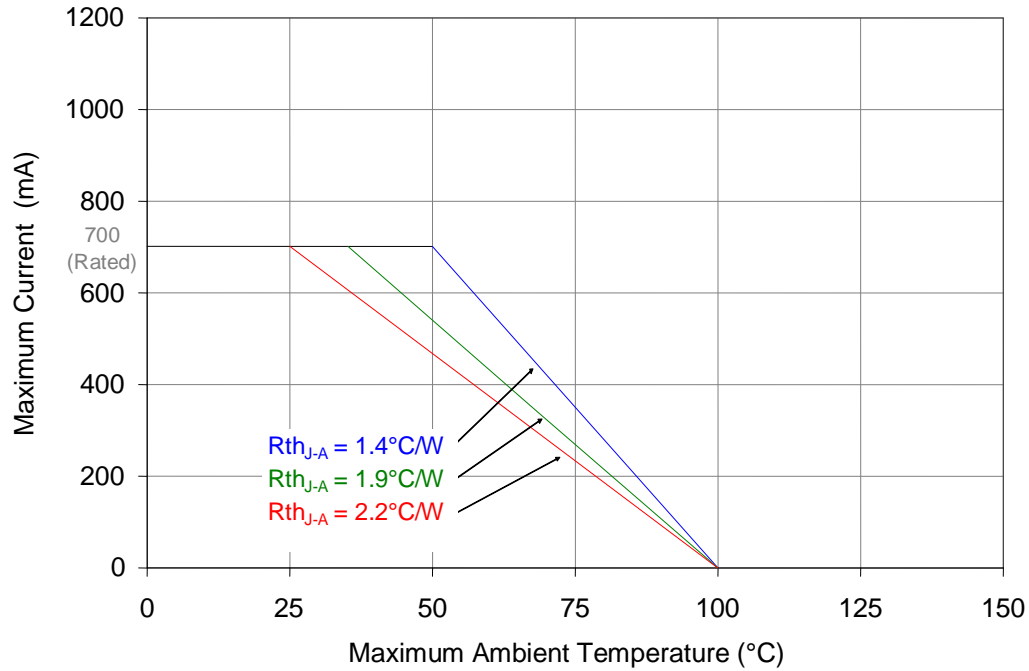

Figure 10: Maximum forward current vs. ambient temperature based on $T_{J(\text{MAX})} = 100^{\circ}\text{C}$.
- Maximum DC forward current (per die) is determined by the overall thermal resistance and ambient temperature. Follow the curves in Figure 10 for current derating.
Notes for Figure 10: